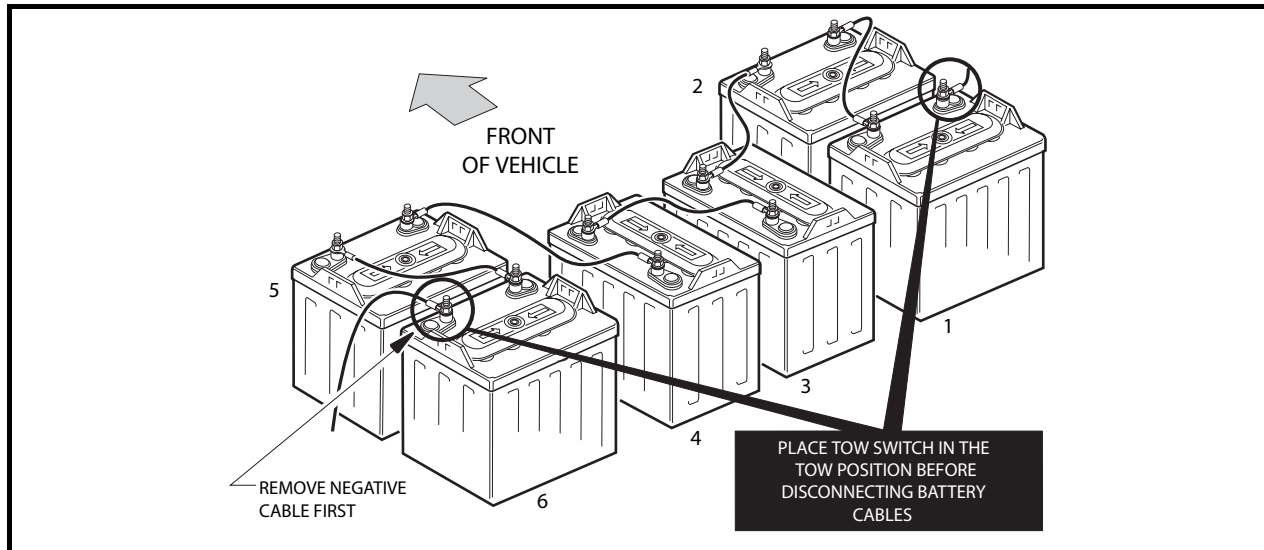

Figure 12-1 PowerDrive Plus Battery Configuration
- TO AVOID UNINTENTIONALLY STARTING THE VEHICLE, DISCONNECT BATTERIES AS SHOWN IN **FIGURE 12-1, PAGE 12-2** WHEN PERFORMING TESTS THAT DO NOT REQUIRE THE ELECTRICAL SYSTEM TO BE ENERGIZED.
1. Place Tow/Run switch in the TOW position and disconnect batteries (**Figure 12-1, Page 12-2**). See **DANGER and WARNING on page 12-1**.
1. Place Tow/Run switch in the TOW position, disconnect batteries (negative cable first) (**Figure 12-1, Page 12-2**) and discharge speed controller.
1. Place Tow/Run switch in the TOW position, disconnect batteries (**Figure 12-1, Page 12-2**) and discharge speed controller.
1. Place Tow/Run switch in the TOW position and disconnect batteries. **See Figure 12-1, Page 12-2.**
6. Connect batteries (positive cable first) (**Figure 12-1, Page 12-2**) and tighten to 110 in.lb (12.4 N-m). Place Tow/Run switch in RUN.
1. Place Tow/Run switch in the TOW position, disconnect the batteries and discharge the controller (**Figure 12-1, Page 12-2**).